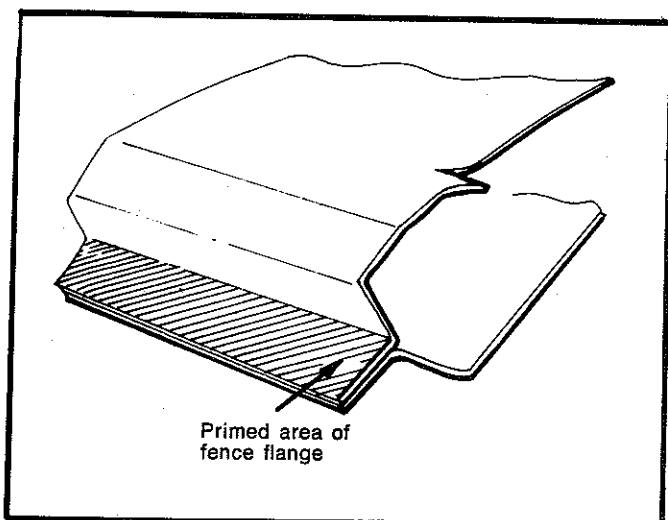

Fig. 8—Priming fence flange
(1) Clean the fence flange and any remaining adhesive with X55 or a similar cleaning solvent and allow to dry for 5 to 10 minutes.
(2) Apply the body primer over the fence flange to give a total "black-out" appearance. Allow it to dry for 10 minutes, refer Fig. 8.